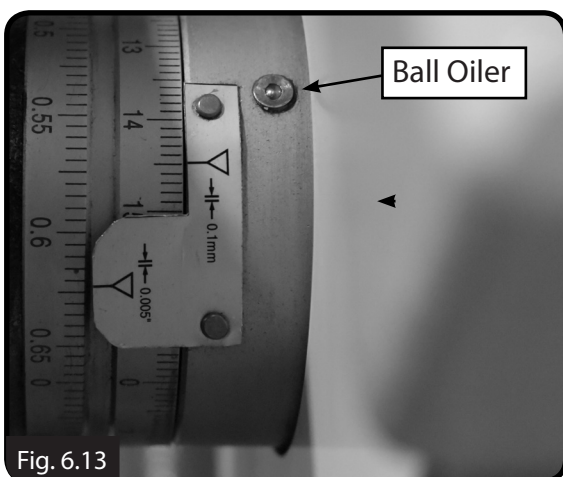

Fig. 6.13
- ☐ Carriage handwheel (Fig.6.13)